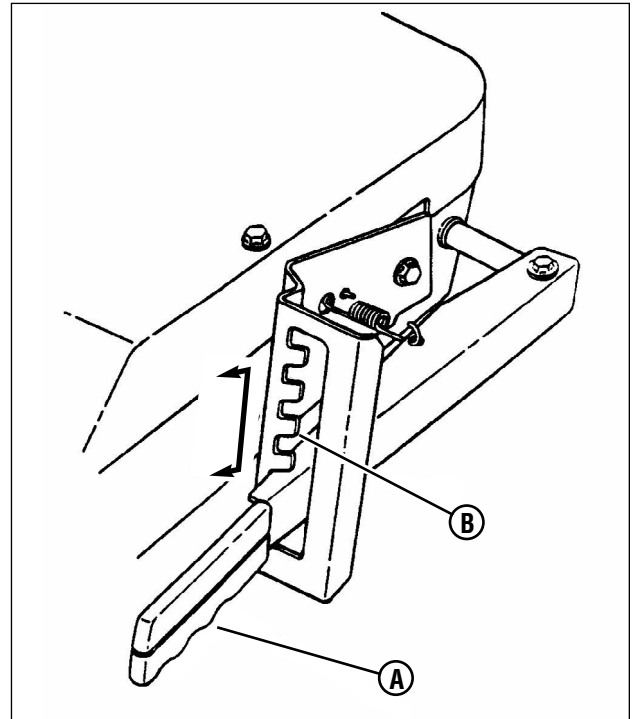

Figure 18: Cutting height adjustment
1. Adjust the cutting height by raising or lowering the deck lift lever (A, Figure 18) into the desired height of cut notch (B).